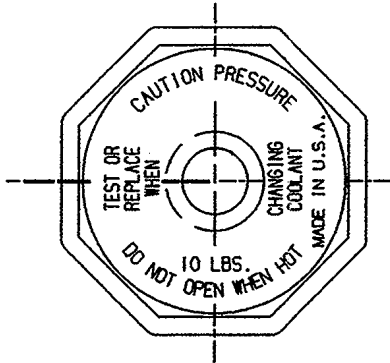

Figure 1 New Design Surge Tank Cap
1. Verify the surge tank cap is the old design. If the cap matches Figure 1, it is the new design and should not be replaced. If the cap does not match Figure 1, it must be replaced. Proceed to Step 2.